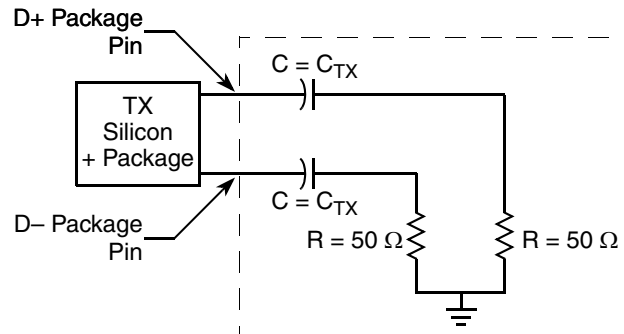

Figure 46. Compliance Test/Measurement Load
1. Specified at the measurement point into a timing and voltage compliance test load as shown in Figure 46 and measured over any 250 consecutive TX UIs.
- Specified at the measurement point and measured over any 250 consecutive UIs. The test load in Figure 46 must be used as the RX device when taking measurements. If the clocks to the RX and TX are not derived from the same reference clock, the TX UI recovered from 3500 consecutive UI must be used as a reference for the eye diagram.
2. Specified at the measurement point into a timing and voltage compliance test load as shown in Figure 46 and measured over any 250 consecutive TX UIs.
2. Specified at the measurement point and measured over any 250 consecutive UIs. The test load in Figure 46 must be used as the RX device when taking measurements. If the clocks to the RX and TX are not derived from the same reference clock, the TX UI recovered from 3500 consecutive UI must be used as a reference for the eye diagram.